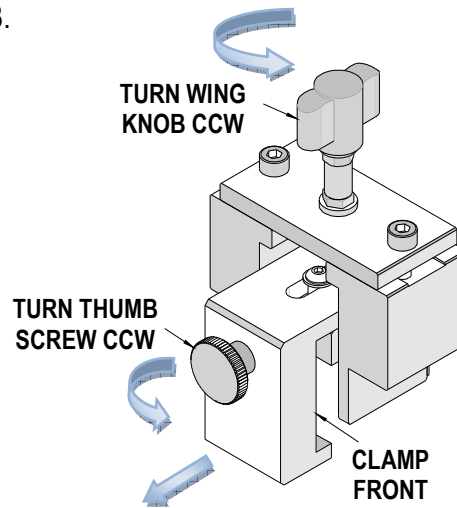

Figure 4
2. Turn the thumb screw clockwise so the clamp front can slide forward shown in Figure 4.